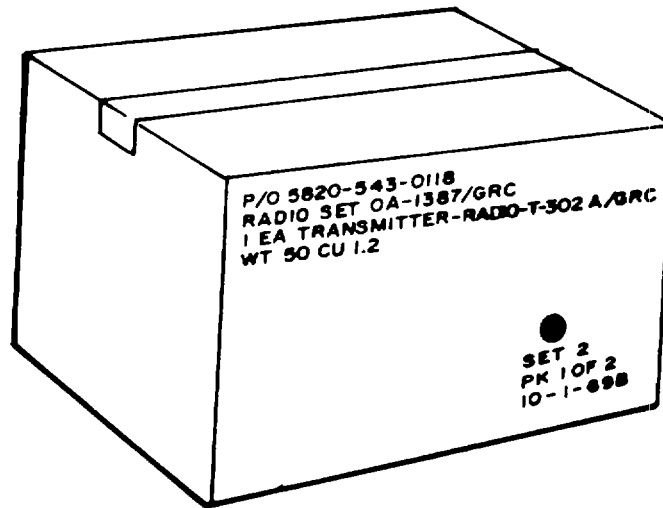

Figure E-4. Single Stock Numbered Set Markings.
- (5) Proper DOT shipping name (for hazardous and dangerous items only).
- (6) When packs of unrelated items are consolidated into a shipping container, apply the word "MULTIPACK" to the shipping container in lieu of markings in subparagraphs a (1), (2), and (3), above.
- (7) When the contents of a single stock numbered item are packed in two or more shipping containers, the stock number shown on each container will be that of the complete set and will be prefixed with P/O (part of). The component will be shown under the set nomenclature. For example (fig. E-4):